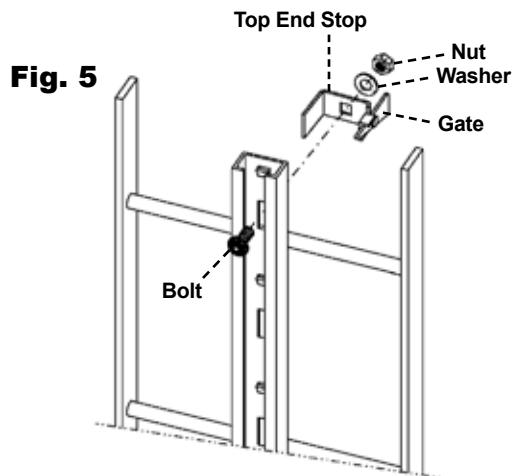

Fig. 5
1. Fix the top end stop to the back of the top guide rail section, aligning the hole in the end stop with the uppermost closed oblong hole in the guide rail (see Fig. 5). NOTE: The gate on the end stop must be located on the right side of the guide rail when facing the front of the system.